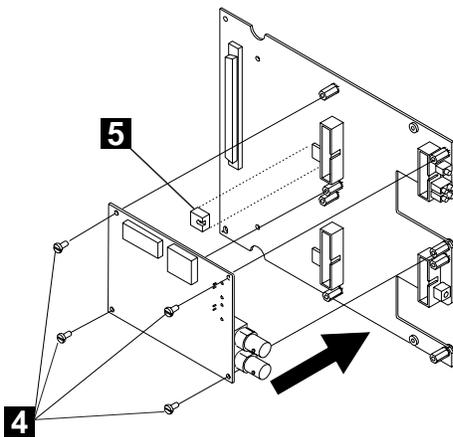

Figure 19. Attaching the I/O Card
- **4** Attach the I/O card to the motherboard using the four screws provided (**4** in Figure 19).